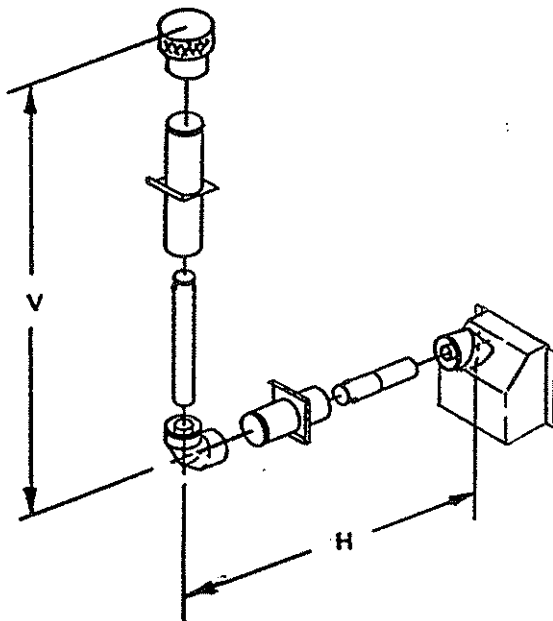

FIGURE 8
Figure 8 shows an example of a vent system using one (1) 90-degree elbow and the 45-degree starter elbow pointing **BACK**. The **MAXIMUM** horizontal dimension H is 2-feet. The **MINIMUM** and **MAXIMUM** vertical dimensions are 5-feet and 20-feet respectively. This vent system will result in a vertical termination.